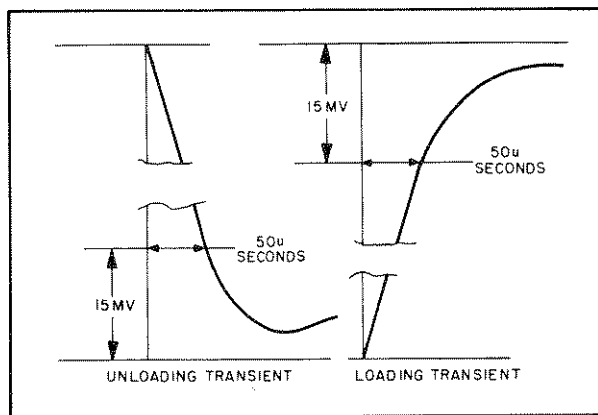

Figure 5-10. Transient Recovery Time, Waveforms
- k. Starting from the major graticule division representative of time zero, count to the right 50 μ sec and vertically 10 mV. Recovery should be within these tolerances as illustrated in Figure 5-10